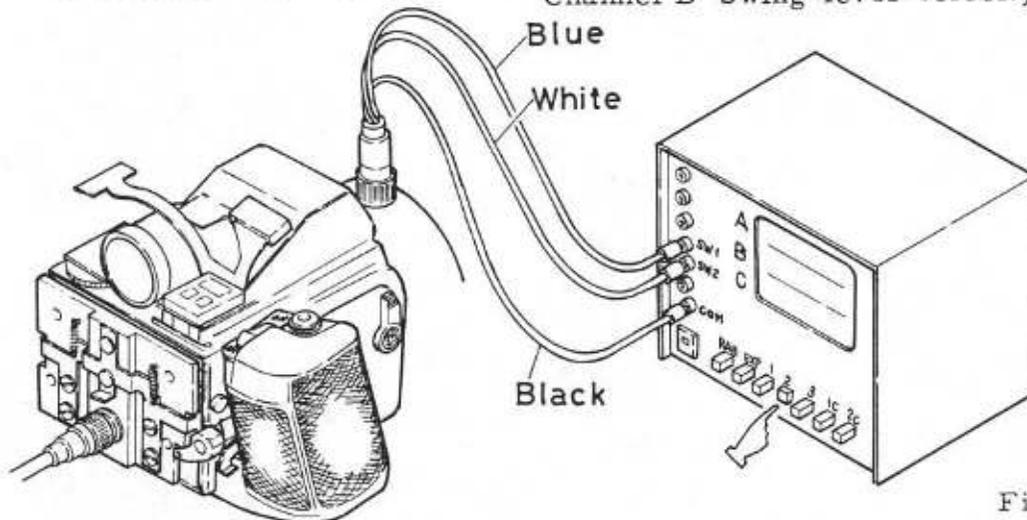

Fig. 55
- 53-1 Attach the DSST-244 and the Light Receiving Unit to the Body and connect the leads as shown in Fig. 55.
54-2 Mount the DSST-244 on the Body and connect its wires with the shutter tester as shown in Fig. 55.